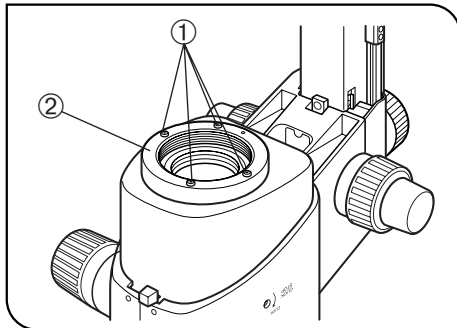

Fig. 19
(Fig. 19)
3. Remove the objective from the zoom microscope body and then remove the objective mount ② by loosening the four clamping screws ① using the provided Allen wrench (for M3 screws). (Fig. 19)